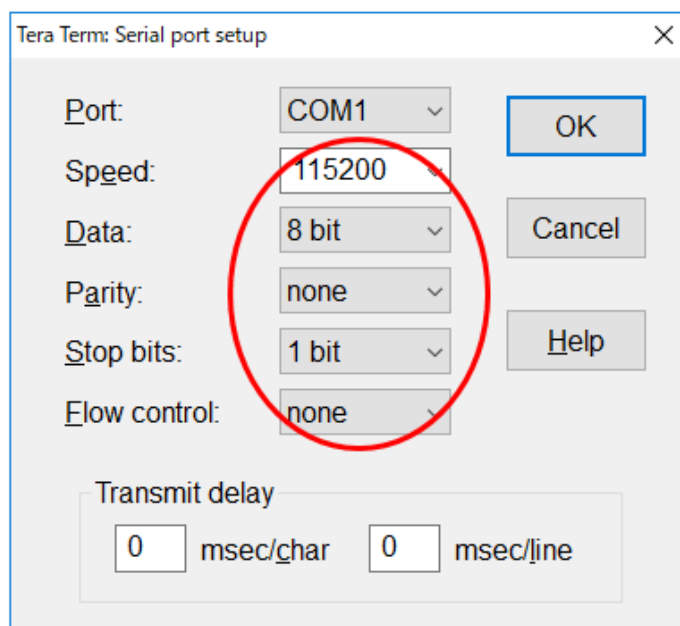

Figure 5.14 Tera Term- serial port setting
- (4) Configure the serial port settings as shown in Figure 5.14.